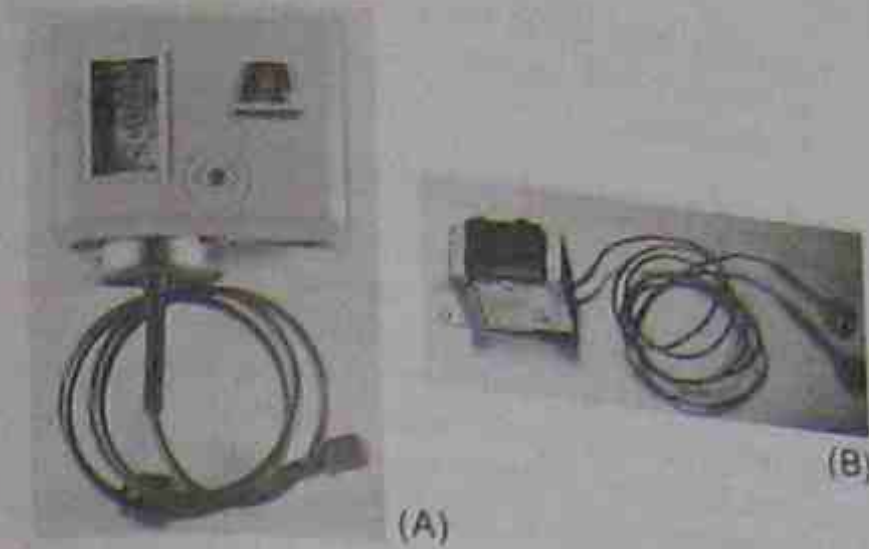

Figure 15-6. Commonly used pressure controls. (A) Adjustable. (B) Nonadjustable. Photos by Bill Johnson
13. Some pressure switches are adjustable, and some are not, Figure 15-6.